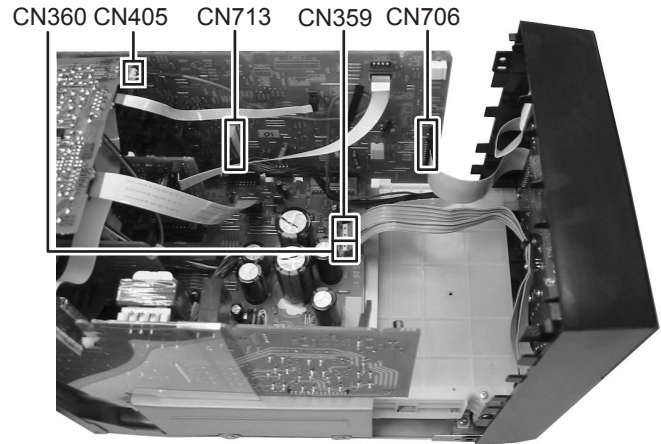

Fig.4
3.1.3 Removing the front panel (Fig.4 to 6)
- (1) Disconnect the card wire from the connector CN359 and CN360 on the regulator board. (See the Fig.4)
- (2) Disconnect the card wire from the connector CN760 on the main board. (See Fig.4)
- (3) Disconnect the connector wire from the connector CN713 on the main board. (See Fig.4)
- (4) Disconnect the connector wire from the connector CN405 on the video board. (See Fig.4)